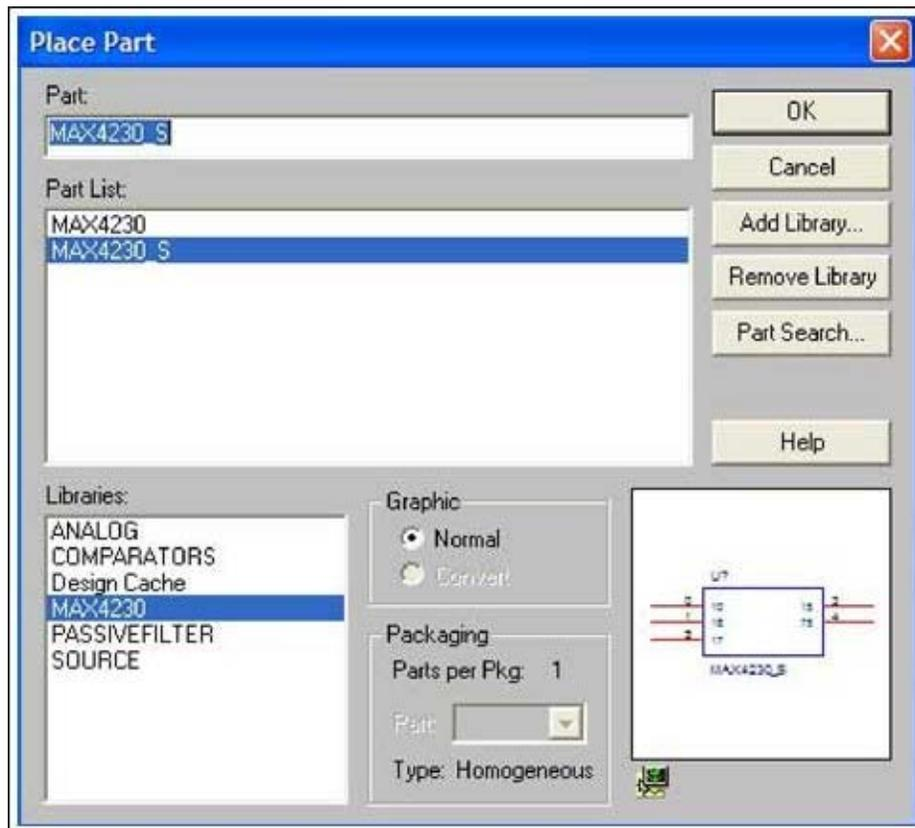

Figure 3. The Place Part window lets you add a symbol to the library.
5. Open the Capture program. After opening the project file and landing on the schematic page, click "Place" and select "Part" from the drop-down menu. Add the MAX4230.olb symbol to the library list first by clicking "Add Library..." and then selecting the MAX4230.olb file. The following window, shown in **Figure 3**, pops up on the screen.